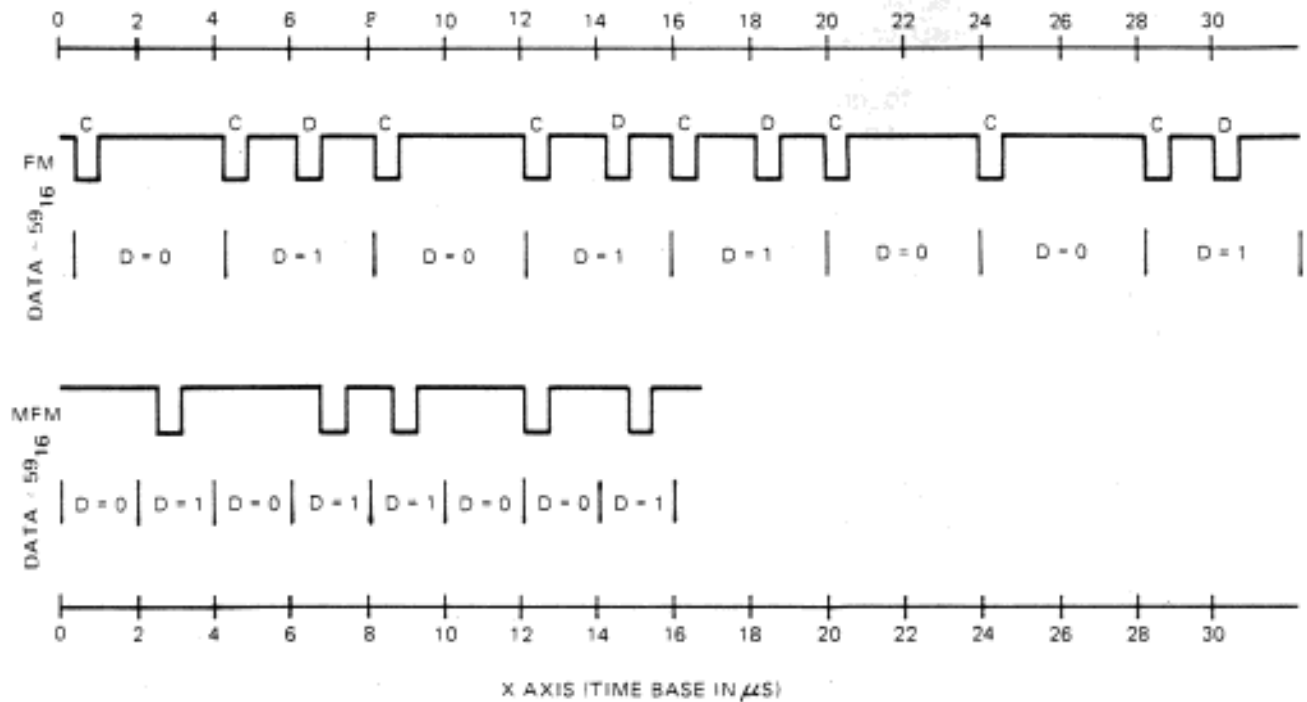

Figure 9-4. FM vs. MFM Recording
A "bit cell" is an abstract term referring to the nominal amount of time used to partition a bit-wide stream into component time-based values. Generation of the X-axis "reference clock" is the function of the host system controller. Without superimposing the X-axis, the value of the bit stream at a given time is impossible to determine. Figure 9-4 compares FM and MFM recording of a bit stream with a value of 01011001.
9.3.1 Single Density (FM)
Frequency Modulation (FM) is a self-clocking encoding scheme used to record bit serial data on magnetic media. Bit cell clocking is achieved by first writing a one bit flux reversal to define the leading edge of the cell. If the data value of the cell is a one, a second flux reversal will occur approximately midway through the bit cell. If it is a zero, there will be no further flux reversals until the leading edge of the next bit cell. The bit cell time for single density is four microseconds. The pulse width for a one bit (either clock or data) is 300 ns. See Figure 9-4.
Modified Frequency Modulation (MFM) is a bit serial encoding scheme used to record data on magnetic media. Unlike FM, MFM does not provide clocking pulses to create a cell. In MFM, the data window (bit cell) generation requires the host system floppy disk controller to derive a reference clock from the incoming data bit stream that can be used to define bit cell boundaries. The nominal bit cell time for MFM is two microseconds. See Figure 9-4.